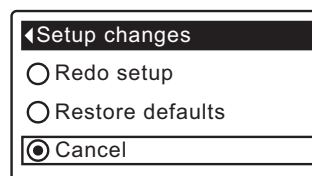

FIG. 80
7. Press the SELECT (O) button to display the Setup changes menu (See Figure 80).
8. If the desired option already has a black dot next to it (See Figure 80), go to Step 9. Otherwise, press the DOWN (▼) or UP (▲) buttons to scroll to the desired option, then press SELECT (O) to choose it.